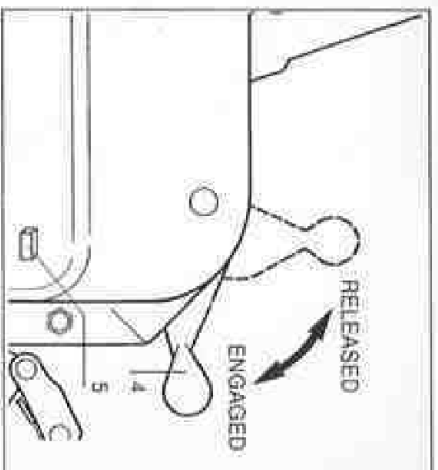

Fig. 7 - TU-8 and TU-16 Rope release lever
There are two positions for the rope release lever (See Fig. 7. 8 and 9): released or engaged.
4.1. TU-8 or TU-16 (Fig. 7)